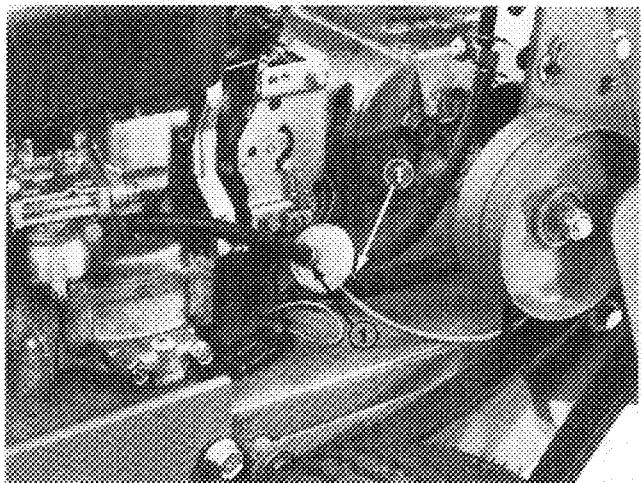

Figure 4
29. Mount throttle control, control module and control panel to upper handle with (4) #10-24 x 1 1/4" lg. machine screws and locknuts. Use front screw to mount module.
31. Plug remaining wire harness connectors into bridge rectifier (See wiring diagram, page 6) and mount panel bottom to front and back of control panel with (4) #10-16 x 1 1/2" lg. self tapping screws.
32. Install new fuel lines, fuel filter and shut off valve with (4) fuel line clamps as shown in Fig. 4.